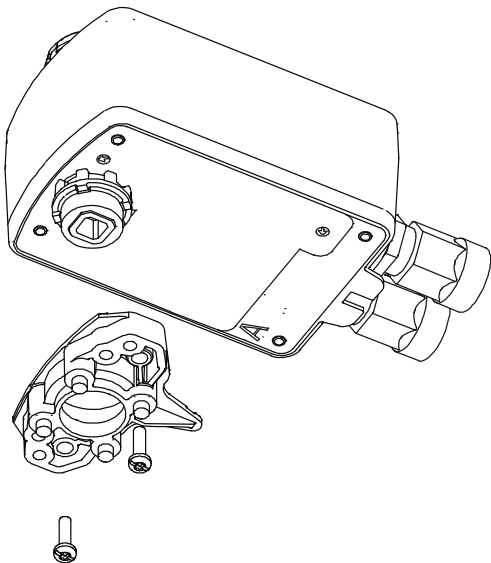

Figure 13: Installing the Linkage
2. Remove the linkage from Side B (Figure 13).
4. Install linkage base on Side A using the two #8-32 x 0.625 in. long screws (Figure 13). The recommended torque is 29 to 33 lb-in. (3.3 to 3.7 N·m).